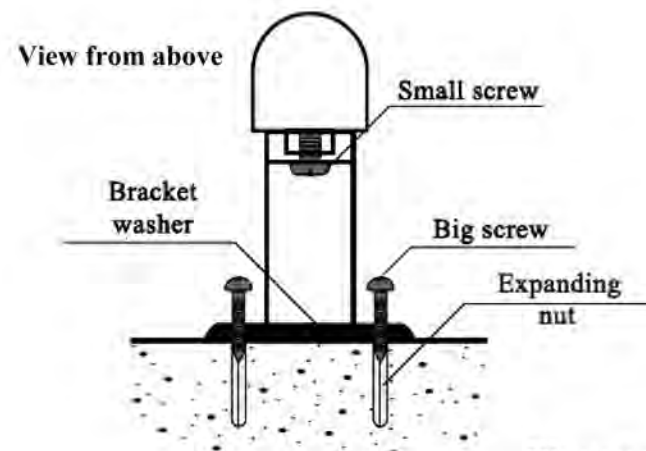

Figure. 3
-Рис. 3
4. Place the bracket washers between the wall brackets and the wall to avoid water leakage (see figure 3)